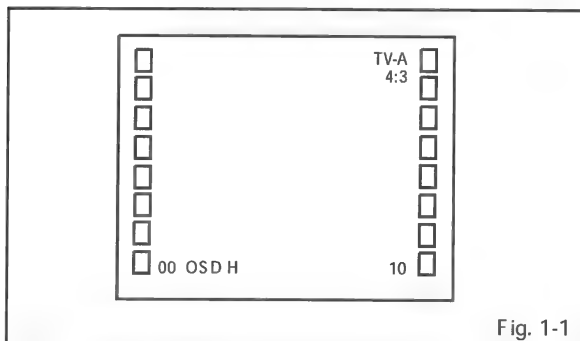

Fig. 1-1
1. In the condition of **NO** indication on the screen, press the VOL. DOWN button on the set and the Channel button (9) on the remote control for more than 2 seconds to appear the adjustment mode on the screen as shown in Fig. 1-1 .
4. Activate the adjustment mode display of Fig. 1-1 and press the channel button (02) on the remote control to select "CUT OFF".
4. Activate the adjustment mode display of Fig. 1-1 and press the channel button (11) on the remote control to select "R.BIAS".
4. Activate the adjustment mode display of Fig. 1-1 and press the channel button (38) on the remote control to select "TINT".
12. Activate the adjustment mode display of Fig. 1-1 and press the channel button (38) on the remote control to select "TINT".
4. Activate the adjustment mode display of Fig. 1-1 and press the channel button (35) on the remote control to select "COL.CENT".
15. Activate the adjustment mode display of Fig. 1-1 and press the channel button (35) on the remote control to select "COL.CENT".
3. Activate the adjustment mode display of Fig. 1-1 and press the channel button (00) on the remote control to select "OSD H".